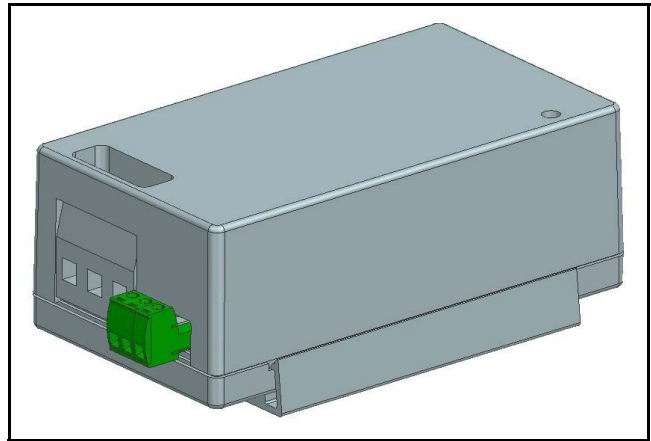

Fig. 2 Smart Start Assist with Base
1. Remove the mounting base from the Smart Start Assist module. To do this, use a small flat screwdriver and press outwards on the clip-on tabs, located on either side of the module. Refer to Fig. 2.